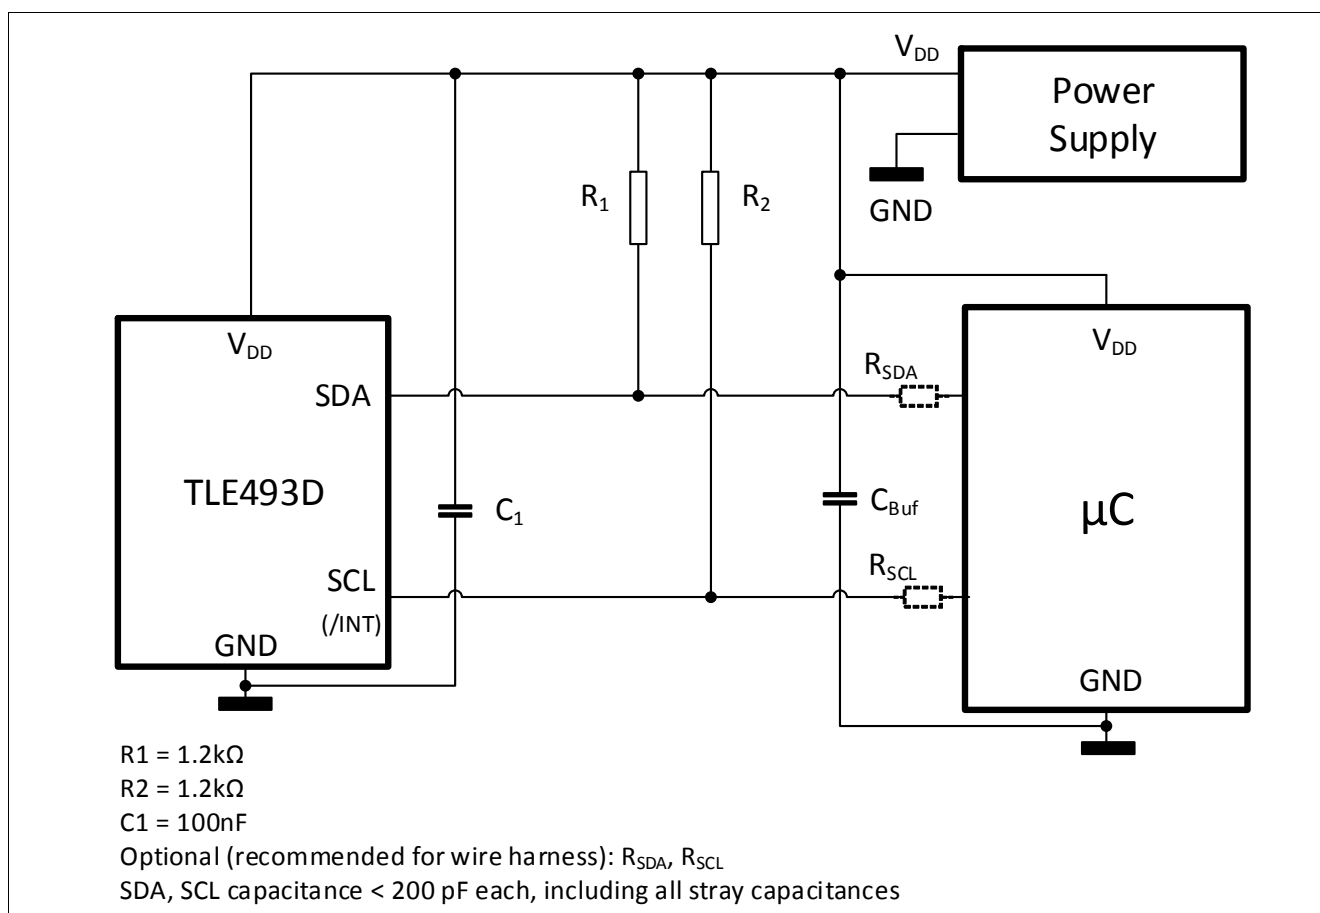

Figure 5 Application Circuit with external power supply and µC
At Power Up, SDA and SCL shall be pulled to  $V_{DD}$  using R1 and R2 of Figure 5 and not be driven to low by any device or  $\mu$ C on SDA and SCL.
1) Currents at pull up resistors (Figure 5) needs to be considered for power supply dimensioning.